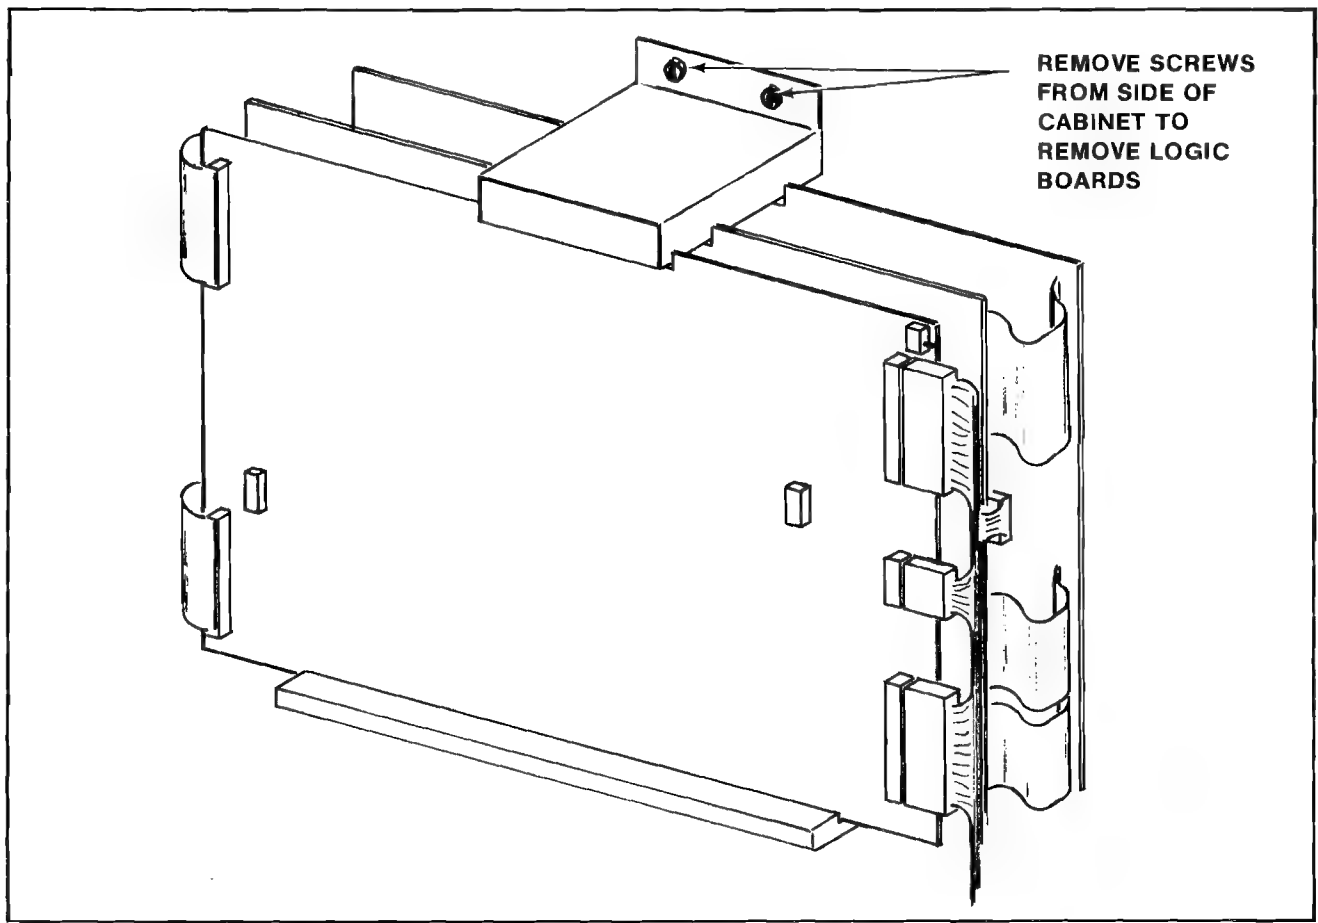

Figure 4-13 Removing P.C.B.s from Card Rack
- ☐ To remove the P.C. boards from the card rack. See Figure 4-13.